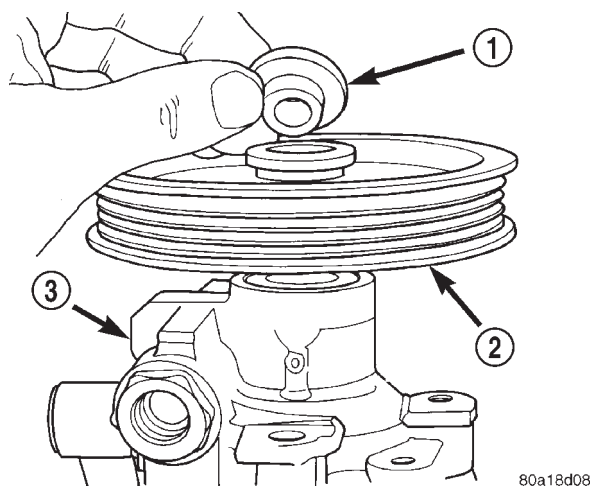

Fig. 22 Special Tool 6936 Correctly Installed On Power Steering Pump Pulley
(3) Place Installation Spacer, Special Tool 6936, (Fig. 22) on top of the power steering pump pulley.